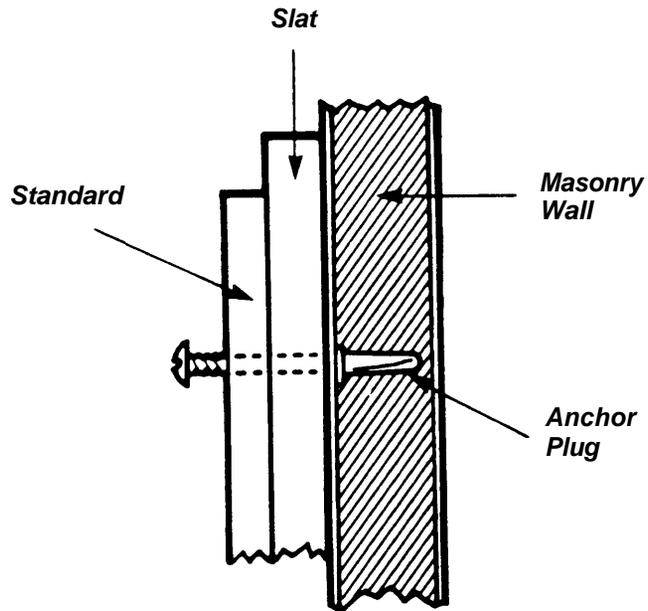

Figure 4.
- c. If you are mounting the standards on a **masonry** wall, use the ¼" masonry drill bit provided with the kit to drill all eight holes 1½" deep. Insert one of the plastic anchor plugs into each of the holes and tap them lightly with a hammer until the flange at the end of the plug is flush with the surface of the wall. Align the slats and standards and secure them with the screws (Figure 4).